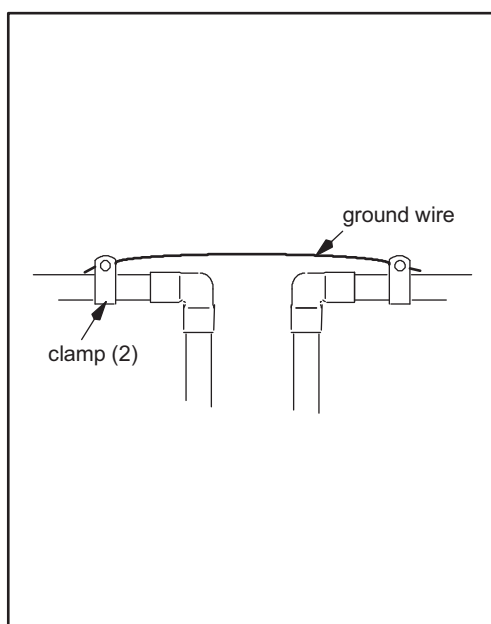

FIG. 6
NOTE: If installing a ground as shown in Figure 6, place ground clamps on copper tubes before soldering (See Step 7a).
- a. Install a #4 copper wire across the removed section of main water pipe, securely clamping at both ends (See Figure 6). Parts not included.